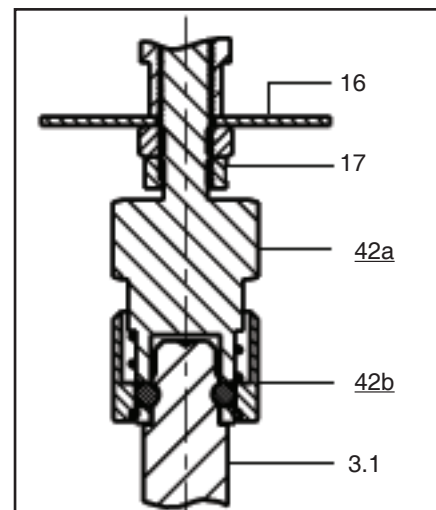

Figure 2: Quick Disconnect
4. Reference Figures 2 through 5 for identification of item numbers.
5. All item numbers with respect to body assembly (BA) will be in parenthesis and not underscored; i.e. (1). All item numbers with respect to the actuator assembly (AA) will be in parenthesis and underscored; i.e. (1).